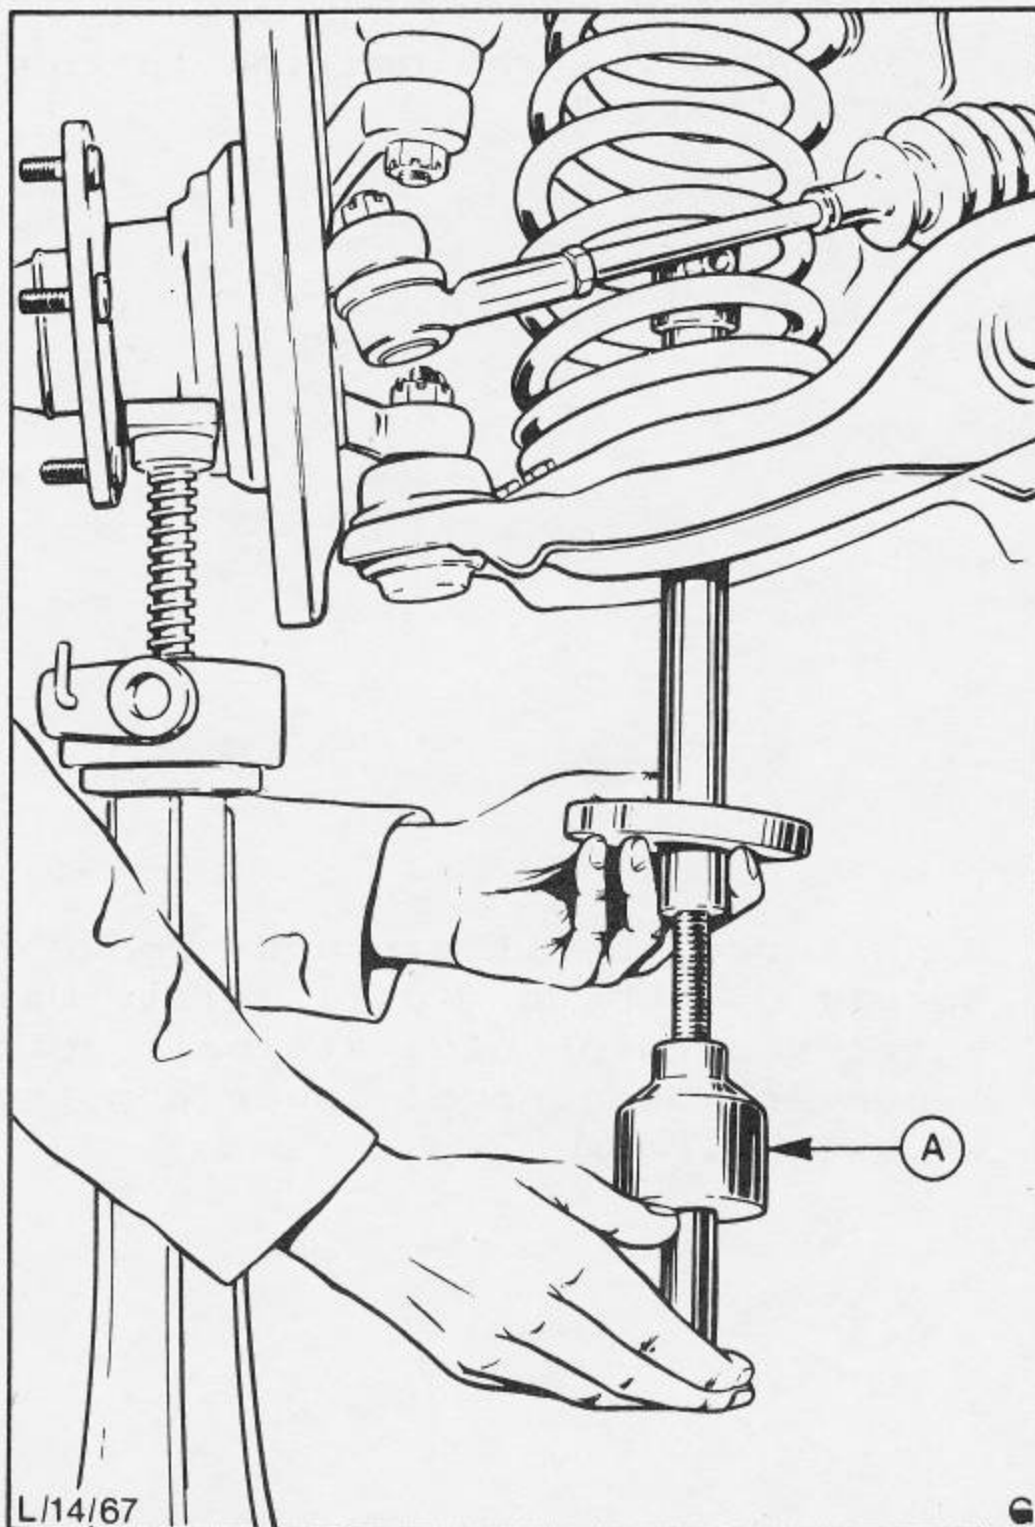

Fig. 28 Positioning Tool No.14-006 'A' inside spring.
5. Place spring compressor in position through centre of lower wishbone and spring, locating top of compressor through shock absorber top mounting turret. Fig.28